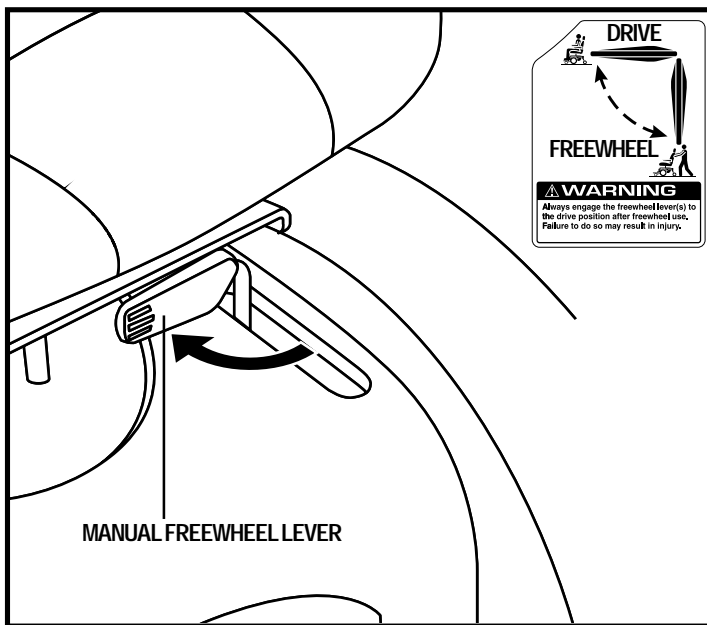

Figure 7. Drive Mode (Drive Engaged)
2. Turn the levers inward to engage the drive motors (drive mode). See figure 7.